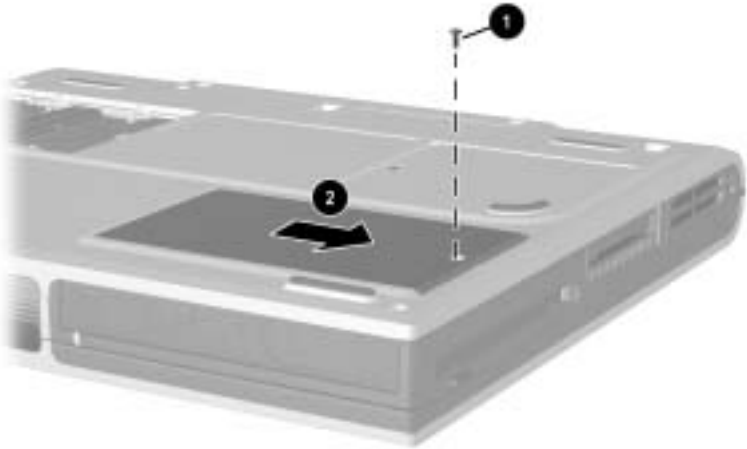

Figure 5-6. Removing the Hard Drive Screw
- b. Remove the TM2.5 ×8.0 hard drive retention screw ❶ (Figure 5-6).
- c. Slide the hard drive forward ❷ to unseat the hard drive connector from the system board.